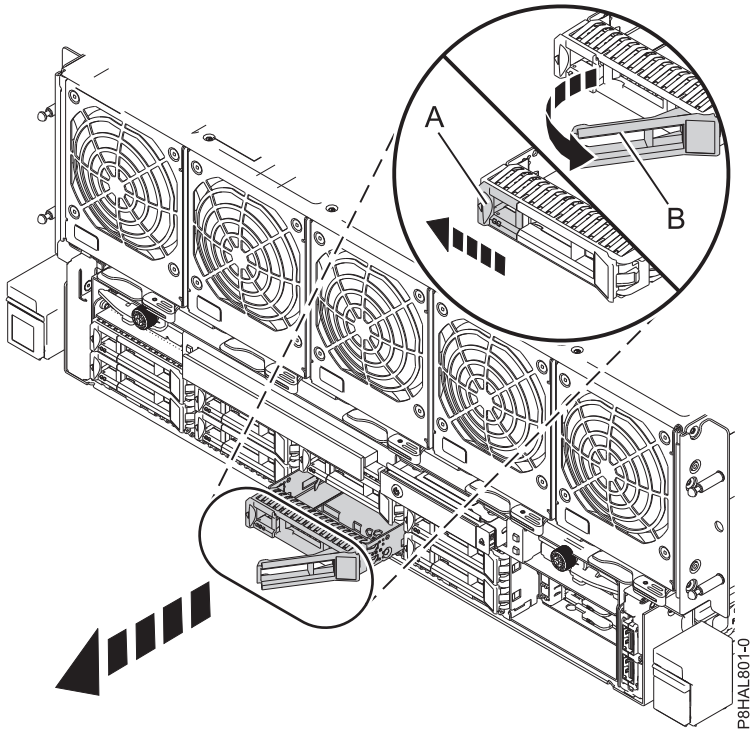

Figure 17. Removing a disk drive from the 8408-44E or 8408-E8E system
3. Unlock the drive handle **(B)** by pressing the handle latch **(A)** and pulling it out toward you, as shown in Figure 17 on page 28. If the handle is not all the way out, the solid-state drive cannot slide out of the system.